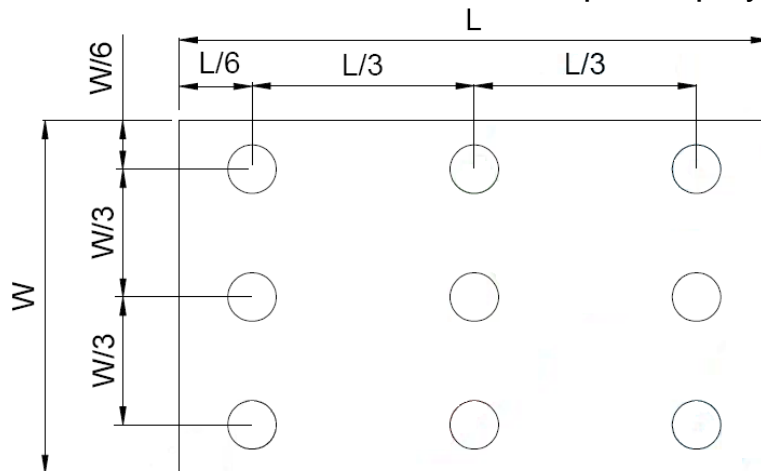

Figure 1. White Luminance and Uniformity Measurement Location(9 points)
Besides, the viewing angles are determined by the horizontal (3, 9 o'clock) and vertical (6, 12 o'clock) direction with respect to the optical axis which is normal to the LCD surface (see Figure1).
Note(2) Contrast measurements shall be made at viewing angle $\Theta=0$ and the center of the LCD surface. Luminance shall be measured with all pixels in the view field. Moreover, you need to set white at first, and then you have to change to dark (black) state (see Figure1). Luminance Contrast Ratio (CR) is defined mathematically as $CR = \text{Luminance as displaying a white raster} / \text{Luminance as displaying a black raster}$.
Luminance of white is defined as luminance values of 9 points across the LCD surface. Luminance shall be measured with all pixels in the view field set first to white. This measurement shall be taken at the locations shown Figure 1 for a total of the measurements per display.